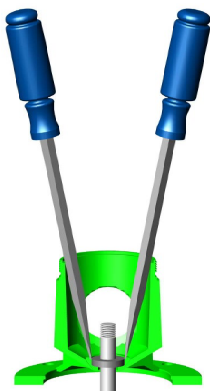

Figure 15 - Remove Mechanical Seal
1. Remove the four (4) pump through bolts that connect the mounting ring to the pump body. Remove the pump body, taking care not to damage the gasket or o-ring.
4. Remove the mechanical seal assembly. The rotary portion of the seal assembly (carbon ring, Buna-N gasket and spring) will easily slide off the end of the shaft. The ceramic portion can be pried out of the rubber seating using two (2) screwdrivers (see Figure 15).